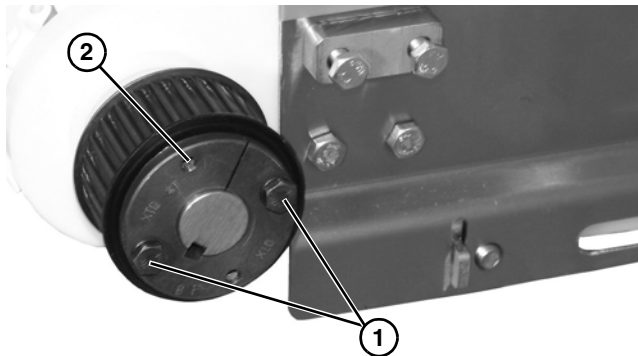

Figure 17
2. Remove taper-lock screws (**Figure 17, item 1**). Insert one of taper lock screws in remaining hole (**Figure 17, item 2**). Tighten screw until pulley is loose. Remove pulley and taper hub assembly.